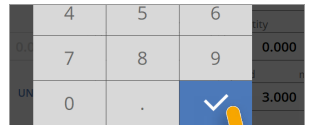

Fig. 41
- ▶ Confirm the new value (Fig. 41).